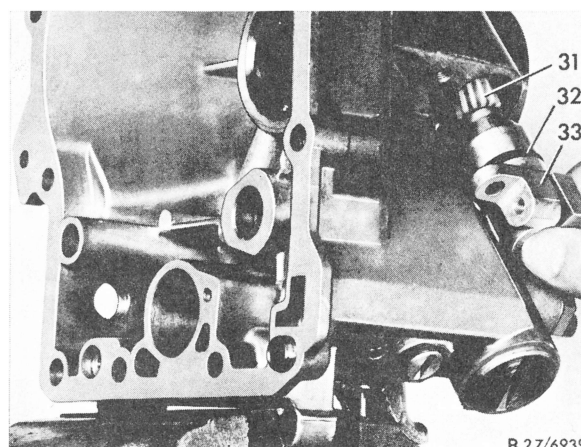

Fig. 2
- 3 Remove spring plate (83) with two springs (82) and pressure receiving piston from rear transmission case cover.
- 5 Pull tachometer drive (31 to 33) out of rear transmission case, remove tachometer pinion (31) from bearing body (33) (Fig. 2).
**19** Insert tachometer pinion (31) into bearing body (33), introduce tachometer drive into rear transmission case until fastening bore is in alignment with bore in transmission case (Fig. 2).